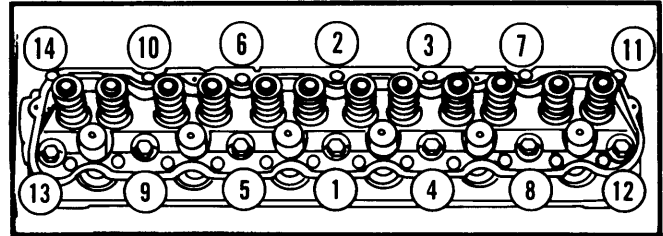

Fig. 2 Cylinder Head Tightening Sequence
2) Lift head over guide studs and slide down carefully. Install head bolts finger tight and remove guide studs. After installing remaining head bolts, tighten head bolts in 3 steps, in sequence as shown in Fig. 2.